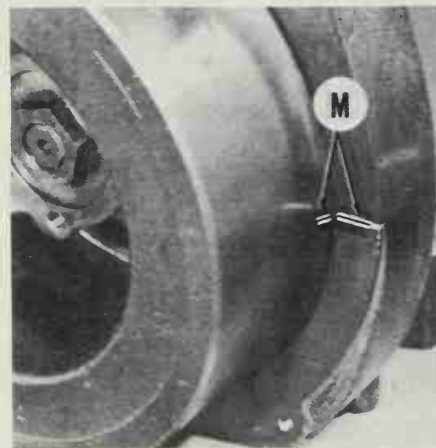
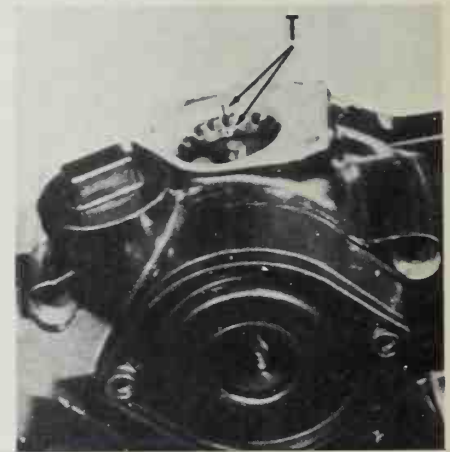
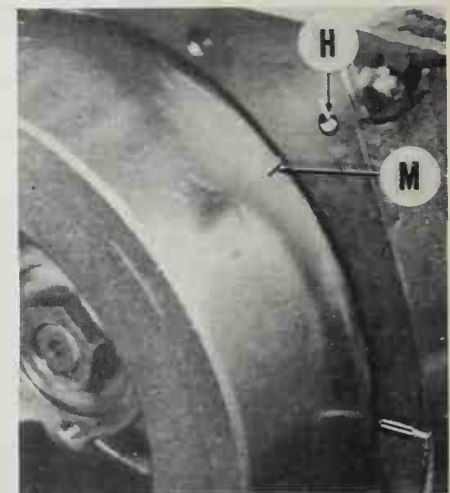
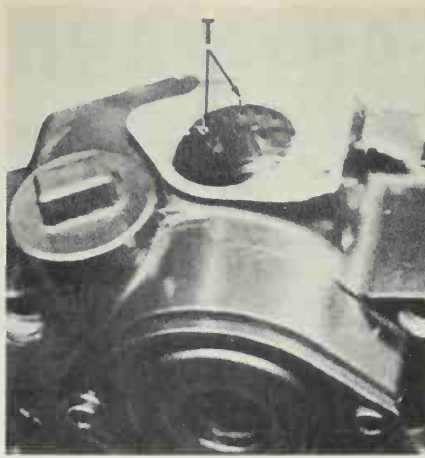

Fig. F1-10—Piston is at top dead center when marks (M) on flywheel and crankcase are aligned.
Fig. F1-11—View of timing marks (T) on camshaft gear and tappet housing opening in front cover.
Fig. F1-12—Align flywheel mark (M) with threaded hole (H) when using alternate front cover installation method outlined in text.
Fig. F1-13—Position camshaft gear so timing marks (T) on gear and tappet housing opening are three teeth apart as shown. Refer to text.
When reinstalling front cover, camshaft and crankshaft gears must be correctly timed using the following procedure: Rotate crankshaft so top dead center mark on flywheel is aligned with reference mark on crankcase as shown in Fig. F1-10. Rotate camshaft gear so
gear mark is aligned with mark in tappet housing bore of front cover as shown in Fig. F1-11. Install gasket and front cover on crankcase being careful not to disturb camshaft gear (three long screws are located in top two holes and bottom left hole). After tightening front cover screws, recheck timing marks (M—Fig. F1-10 and T—Fig. F1-11). Gear timing is correct if marks (M—Fig. F1-10) are within 6.35 mm of alignment when marks (T—Fig. F1-11) are aligned.
flywheel top dead center mark (M—Fig. F1-12) is aligned with threaded hole (H) in crankcase. Position camshaft gear so gear mark is three teeth to left of timing mark in tappet housing bore in cover as shown in Fig. F1-13. Install gasket and front cover on crankcase being careful not to disturb camshaft gear (three long screws are located in top two holes and bottom left hole). After tightening front cover screws, recheck timing marks. Gear timing is correct if marks (M—Fig. F1-10) are within 6.35 mm of alignment when marks (T—Fig. F1-11) are aligned.